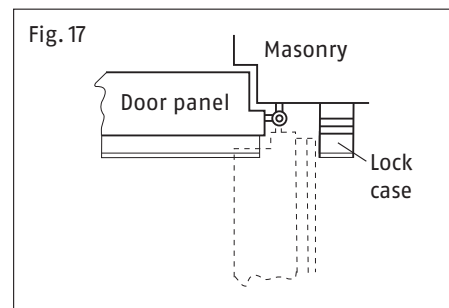

Fig. 17
- Do not allow the lock body to collide with the lock casing on the hinge side (Fig. 17; if necessary, fit a separate door stopper).